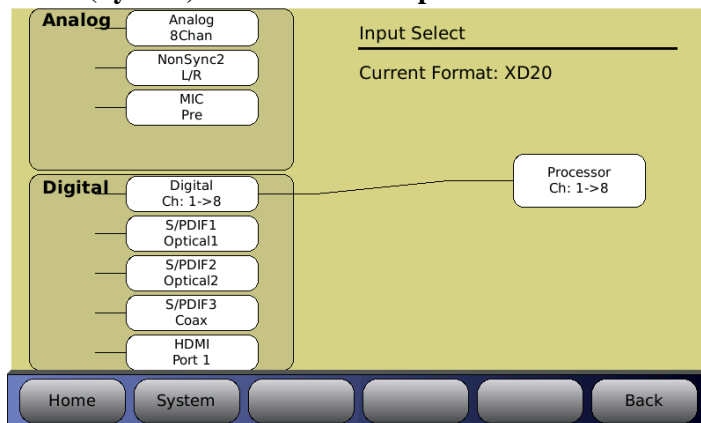

Figure 20 – Input Source Screen
- ☑ When the Digital Channels input is used for the digital soundtrack you must make sure that the **Input Source** selection is **Digital Ch: 1->8** as shown in **Figure 20** below. The other options, Digital Ch: 1->16 or Digital Ch: 9->16, should not be used because it eliminates the cross-fade function between digital and optical. Pressing the **Digital Ch:** button repeatedly allows you to change the digital channel selection.